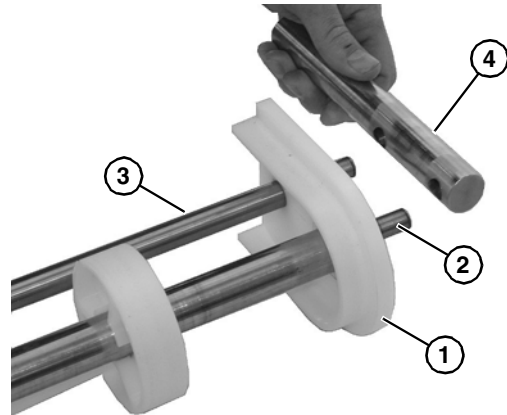

Figure 68
3. Install the pinch guard (Figure 68, item 1) to each side onto idler shaft (Figure 68, item 2) and pinch guard shaft (Figure 68, item 3).
4. Install the bearing end rod (Figure 68, item 4) onto idler shaft (Figure 68, item 2) and rod (Figure 68, item 3).